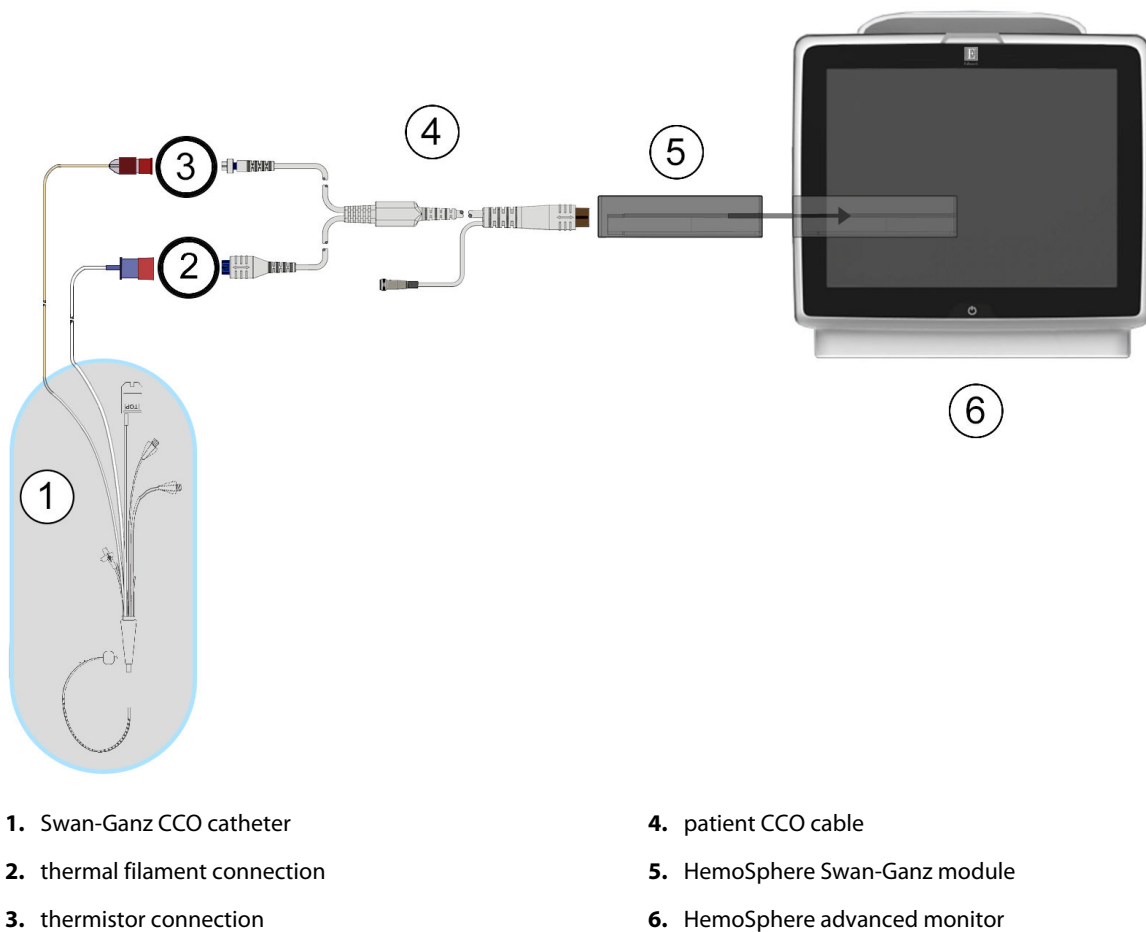

Figure 9-4: CO connection overview
2. Attach the catheter end of the patient cable to the thermistor and thermal filament connectors on the Swan-Ganz CCO catheter. These connections are emphasized as numbers (2) and (3) in Figure 9-4 on page 173.